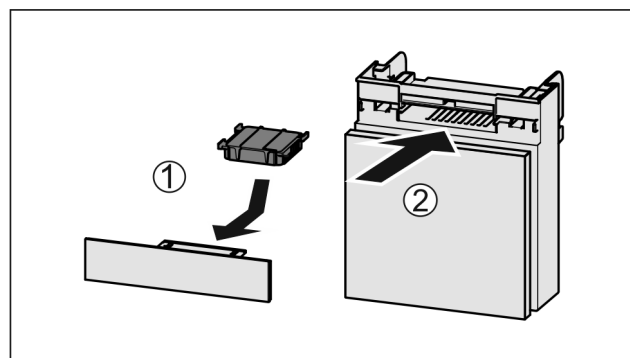

Fig. 100
- ▶ Insert the carbon filter as shown in the diagram Fig. 100 (1).
- ▶ Push the compartment in Fig. 100 (2).